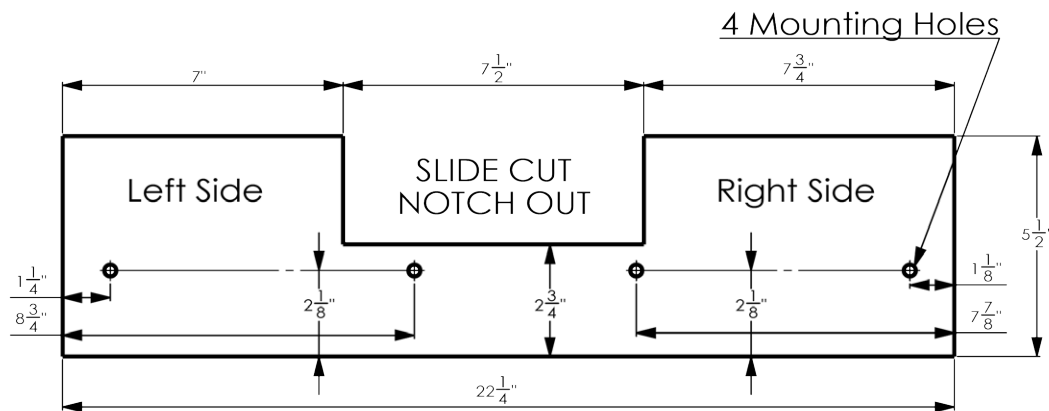

Figure 38
See Figure 38 for auxiliary fence dimensions.
6. The notch shown in Figure 38 must be cut out in order to make slide cuts using the auxiliary fence.